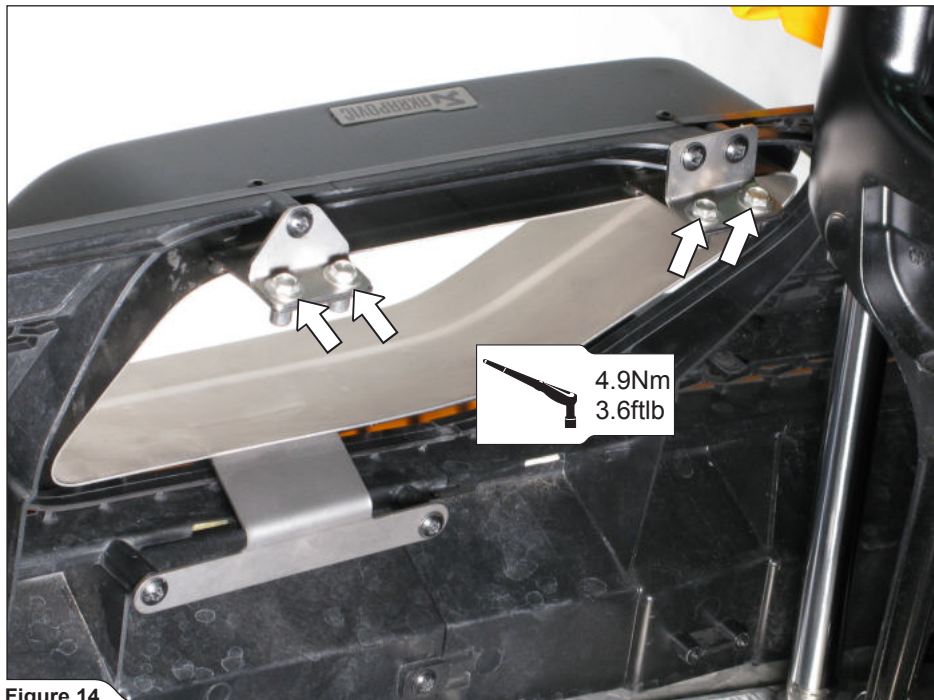

Figure 14
4. Remove the engine hood off the vehicle again (be careful, not to shift the tail pipes during removing). Tighten the marked tail pipes' bolts on both tail pipes, to the specified torque (Figure 14).